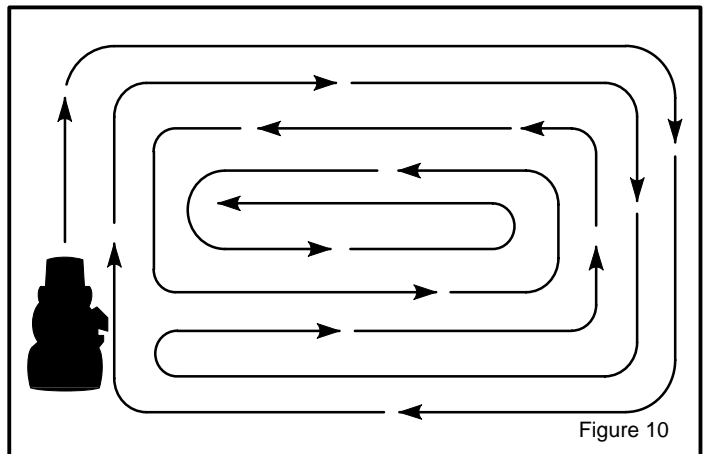

Figure 10
8. When you mow large areas, start by turning to the right so that the cut grass will discharge away from shrubs, fences, driveways, etc. After one or two rounds, mow in the opposite direction making left turns until finished (Figure 10).